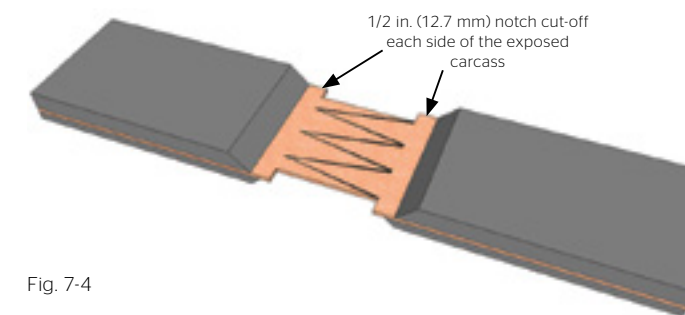

Fig. 7-4
- a. Do not remove the covers as explained in line items 6 through 9.
11. Beginning approximately 1 1/2 in. (38mm) from the top cover skive, notch the bare fabric and cut-off approximately 1/2 in. to 3/4 in. (12.7mm to 19mm) along each edge of the remaining splice length. Refer to Fig. 7-4.